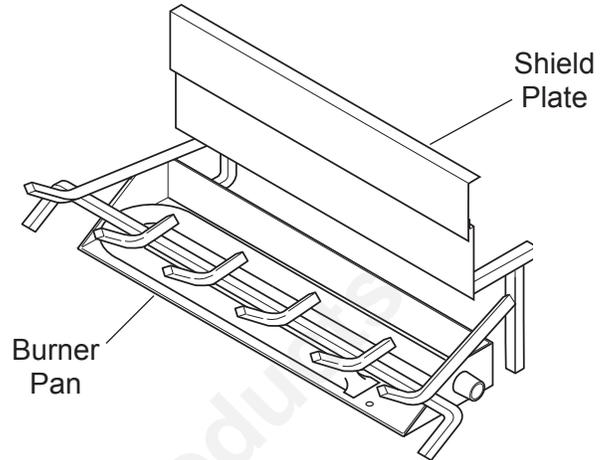

**Figure 117 - Installing Top Left Log (#8)**
10. Place front end of Top Left Log #8 on Log #7. Let back end of Log #8 rest on Log #6. See Figure 117.